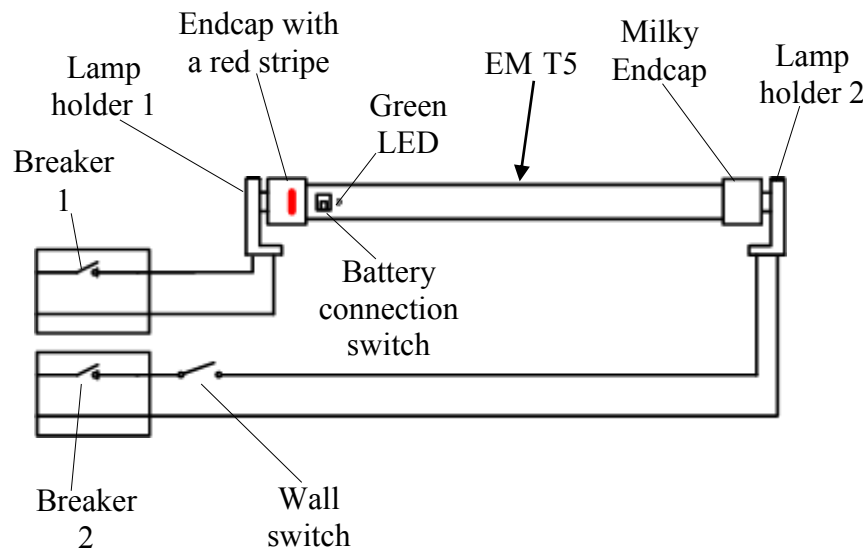

Fig. 1
6. Install the non shunted lamp holders provided with the aleddra's emergency LED T5 lamp retrofit kit into the fixture: Refer to wiring diagram in Fig. 1